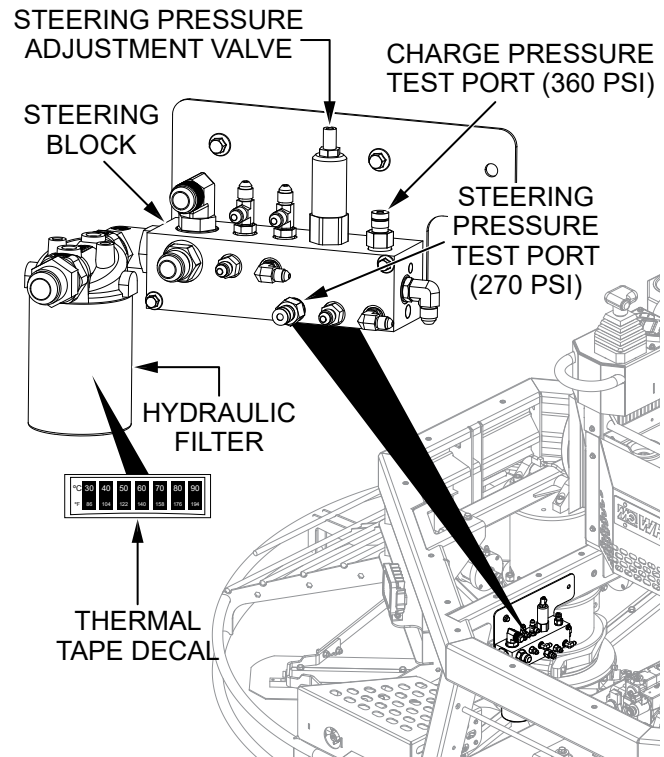

Figure 36. Steering Block Charge Pressure And Steering Pressure Components
1. Check the charge pressure for the **front hydraulic pump** at the **charge pressure test port** (Figure 36) on the **steering block**. Access the steering block below the platform at the front of the trowel, beneath the foot pedal.
2. Using a Parker PD242 diagnostic test port coupler, connect a 300–600 psi pressure test gauge to the **charge pressure test port** (Figure 36) on the **steering block**.
5. Allow the hydraulic system to warm up to 140°F (60°C). Hydraulic temperature is indicated by the **thermal tape decal** (Figure 36) on the **hydraulic filter**.
Check the steering pressure at the **steering pressure test port** (Figure 36) on the **steering block**. Access the steering block below the platform at the front of the trowel, beneath the foot pedal.
3. Using a Parker PD242 diagnostic test port coupler, connect a 300–600 psi pressure test gauge to the **steering pressure test port** (Figure 36) on the **steering block**.
6. Allow the hydraulic system to warm up to 140°F (60°C). Hydraulic temperature is indicated by the **thermal tape decal** (Figure 36) on the **hydraulic filter**.
2. Remove the protective cap on the **steering pressure adjustment valve** (Figure 36) and adjust the steering pressure as needed. Replace the protective cap and reinstall the front platform when finished.